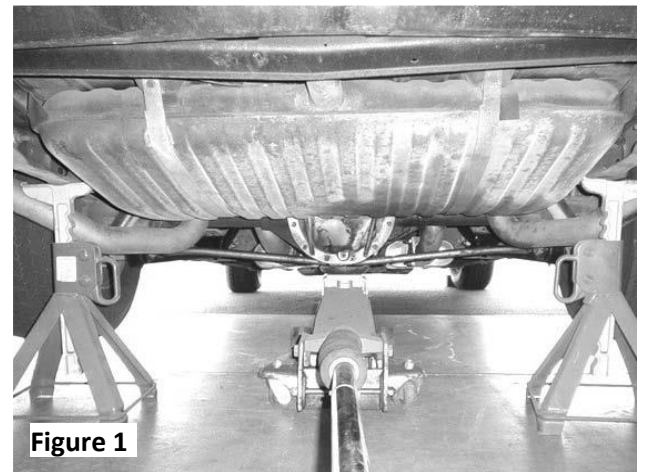

Figure 1
3. Place a floor jack under the differential and lift up slightly to remove tension from the trailing arm bolts. Make sure not to lift the vehicle off the jack stands. **Figure 1**